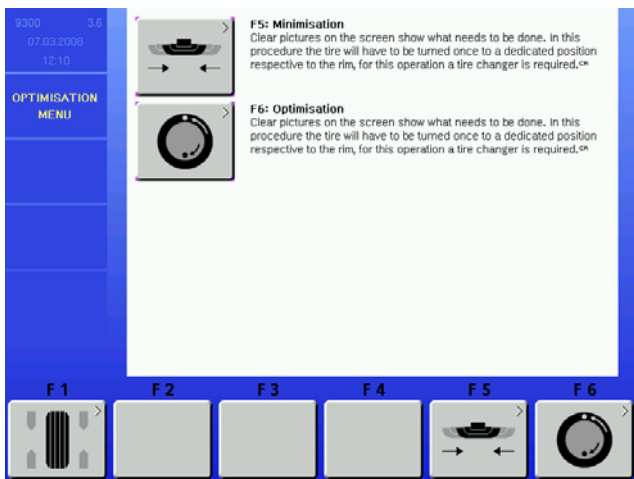

Figure 26
2. From the Screen displayed in Figure 26, select "F5" to begin matching a tire/rim assembly, select "F6" to begin the matching process with a bare rim.